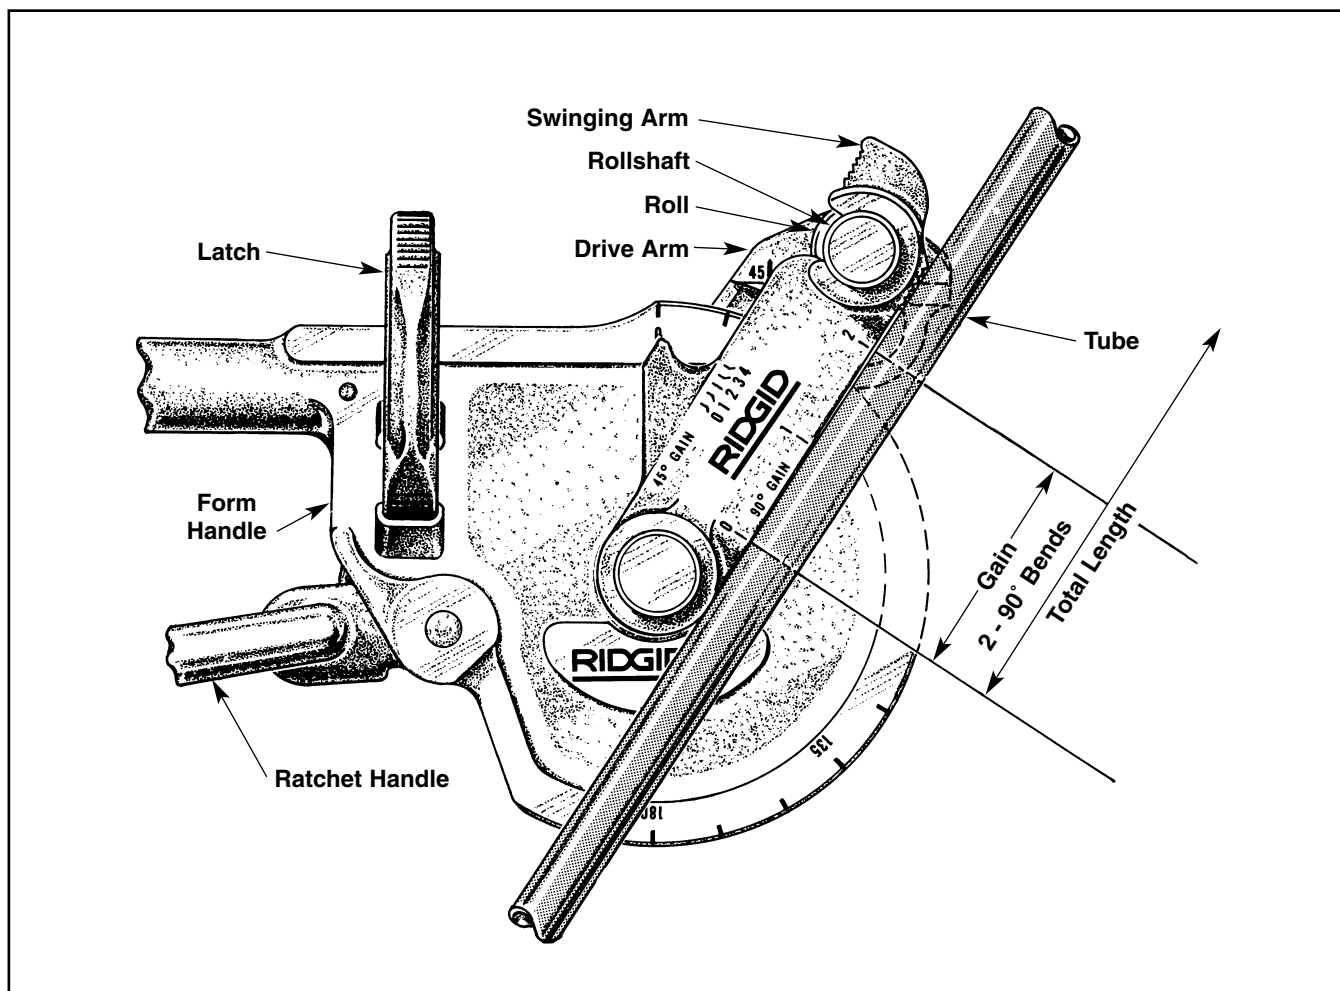

Figure 2
2. Because most blueprints are dimensioned as though all corners were square, less tube is actually required than the total of the blueprint dimensions. Therefore, **REDUCE** the total length by the number of bends, using the Gain Scales on the Swinging Arm. (See Figure 2)
3. Reduce the measured length of tube from Step 1 by one graduation for each 90° bend using the scale marked "90° Gain". Reduce Length of tube by one graduation for each 45° bend using the scale marked "45° Gain". (See Figure 2) Mark tube and cut.